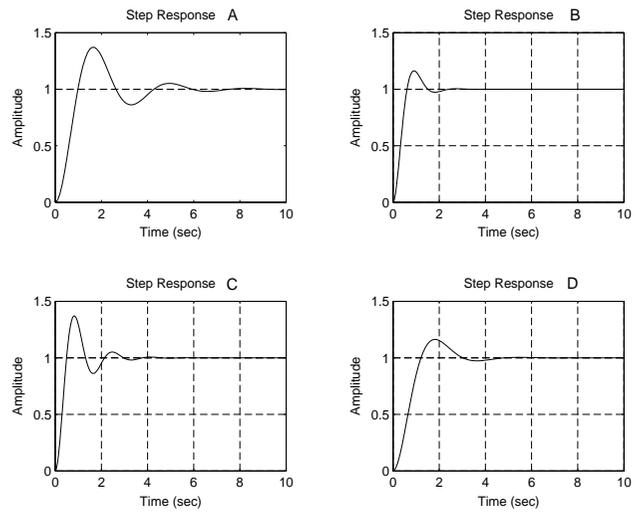

Figure 2.14a
2.14 Figure 2.14a shows the step response from a system with the transfer function